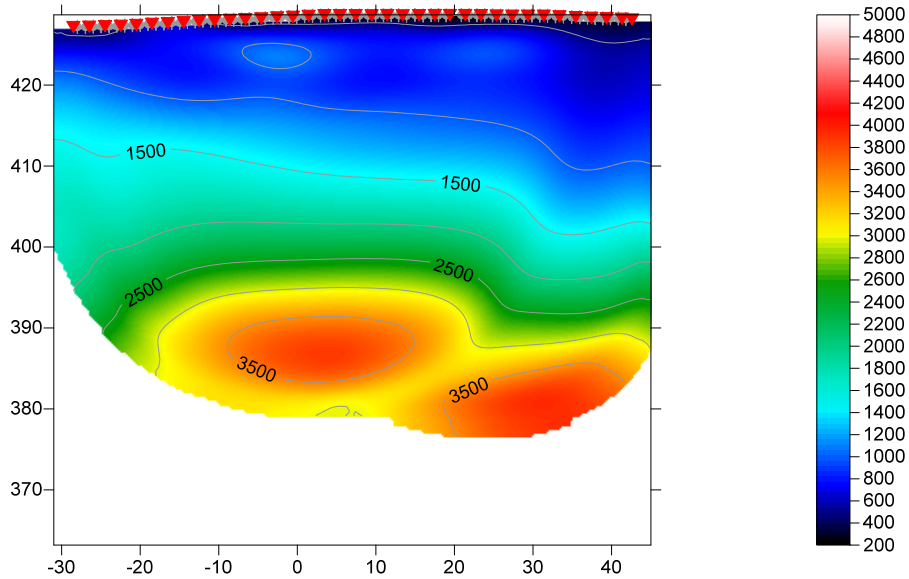

Fig. 9 : WET inversion of refraction shots only, disregard VSP shots
- click *Iterate* and uncheck *WET runs active*. Click *OK* and *Start tomography processing* for Fig. 9&10.
Note the limited depth penetration in Fig. 9&10 due to the shallow high-velocity layer at elevation 425m and lower-velocity region below this layer. Classic refraction theory states that you cannot image below a velocity inversion. As shown we still get a meaningful estimate of top of bedrock with *WET inversion*.